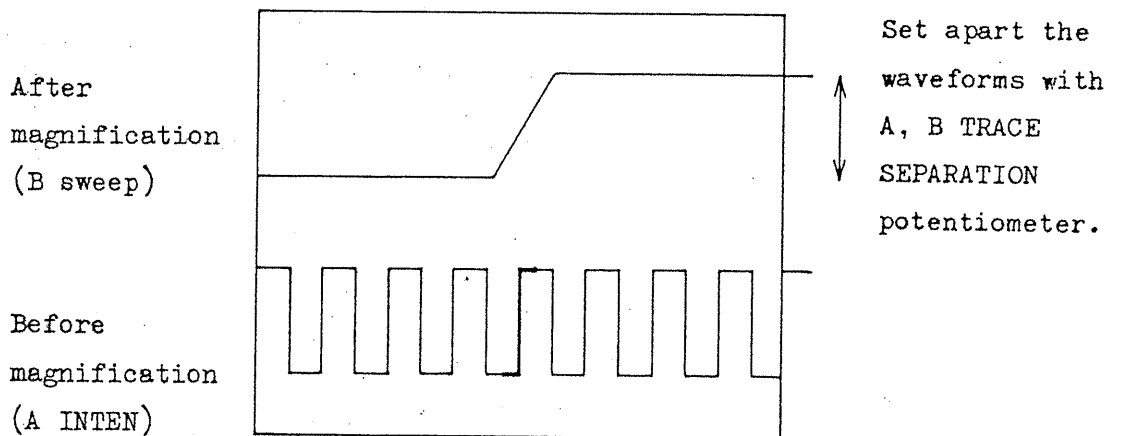

Figure 13
The operation method is the same as that of the delayed sweep of Section 4.7. As you turn the HORIZ DISPLAY switch to the ALT position, the A INTEN waveform and B waveform are displayed on the screen as shown in Figure 13. To prevent the two waveforms from overlapping and to display them separately, adjust the A, B TRACE SEPARATION potentiometer (34).